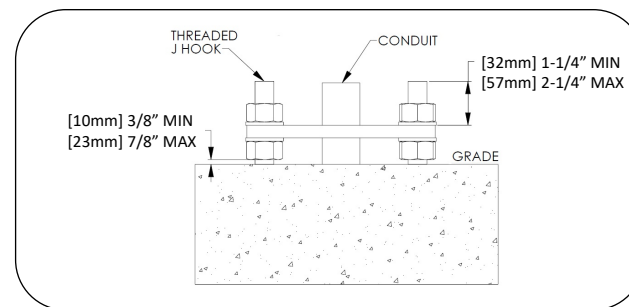

FIG. 1 – ANCHOR INSTALL DETAIL
3. Assemble template and anchors as shown in Fig. 1. Set into new concrete. Level template in all directions.